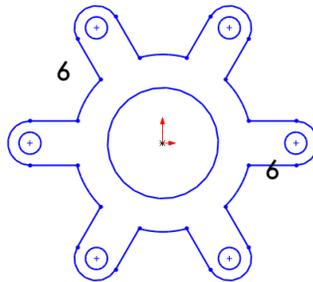

Figure 3-12 Final sketch
10. Enter **25** in the **Radius** spinner in the **Circle PropertyManager**. Next, choose the **Close Dialog** button to exit from the **Circle PropertyManager**. The final sketch of the model is shown in Figure 3-12. In this figure, all relations are hidden for clarity.